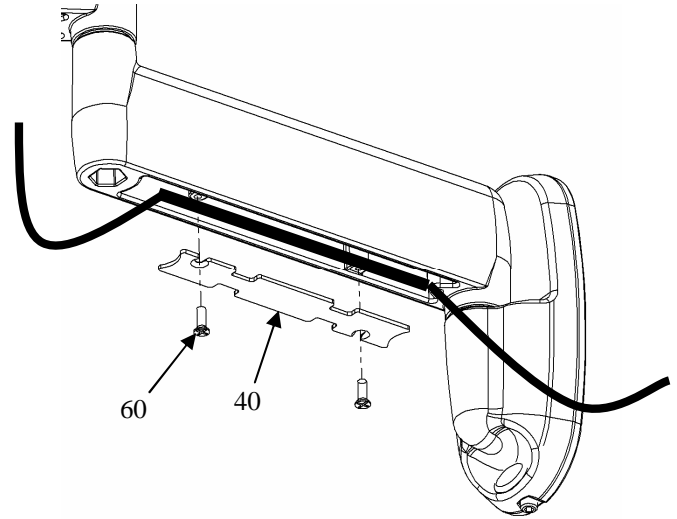

Figure 16. Cable Management
3. Secure cables using cover plates (40) and four screws (60). See Figure 16.